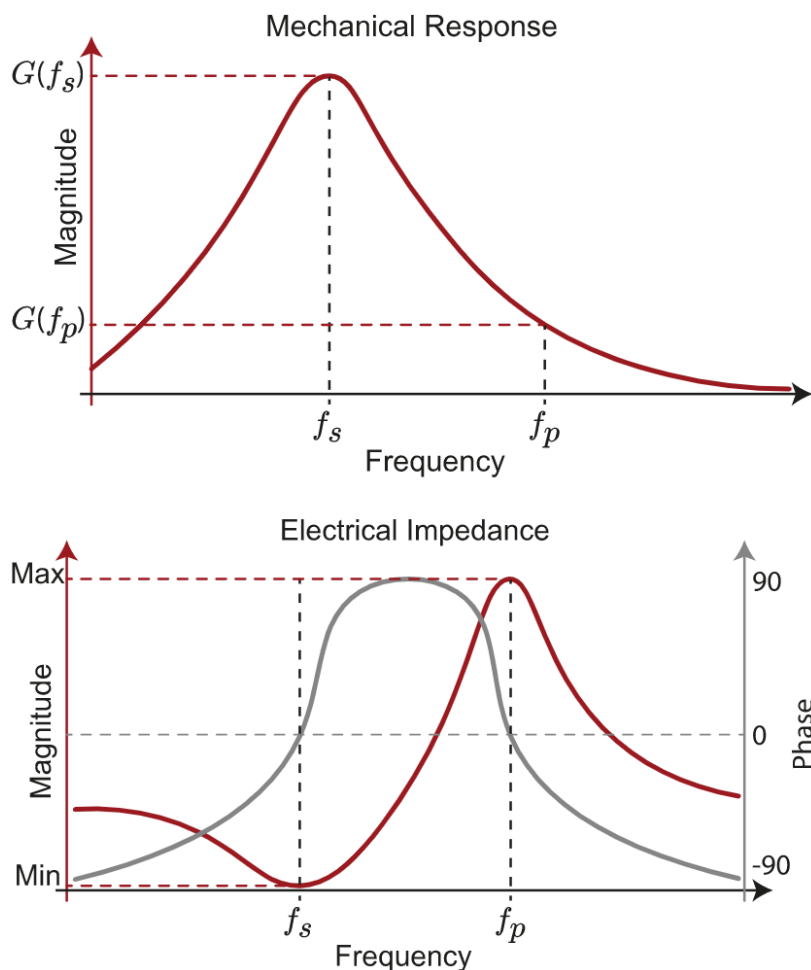

Figure 4. Electrical and mechanical frequency response of an ultrasonic transducer
The most important concept to understand is the relationship between the electrical and mechanical impedance response of a transducer. Figure 4 plots the mechanical and electrical frequency response of an ultrasonic transducer.
The resonance tracking system of the PDUS210 is illustrated Figure 4. The phase detector (M) measures the impedance phase angle between the primary voltage and current. The phase controller $C_\theta(s)$ varies the drive frequency to maintain a constant phase set point θ_{ref} , which is usually equal to zero.